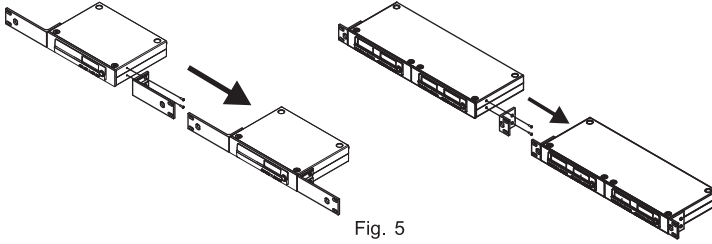

Fig. 5
1. Single half-rack or single 1-rack receiver: Install the optional rack mount kit and fasten with screws on both sides. Fig. 5